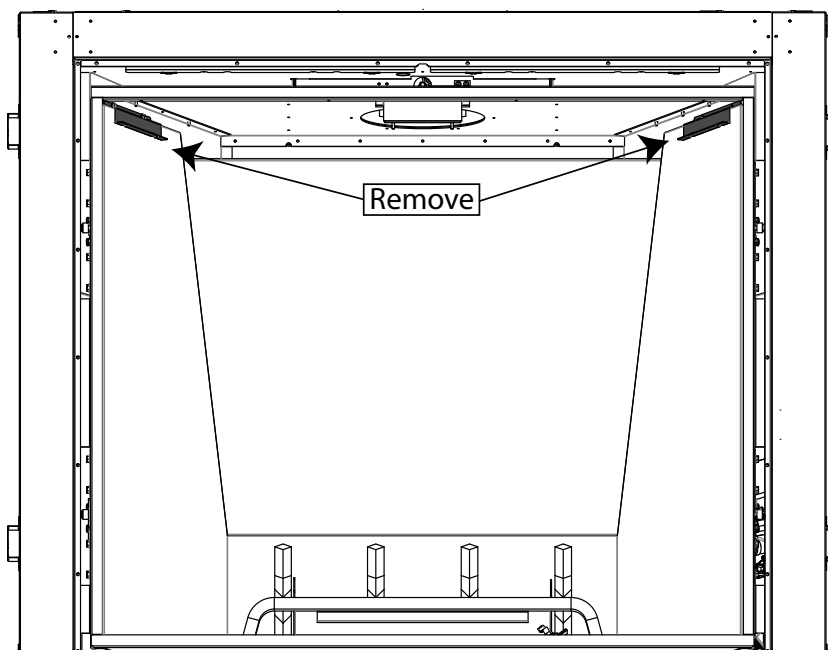

Figure 31: Liner Retainers
Step 1. Remove the side liner retainers one at a time using a 5/16 socket (see Figure 31). The screws only have to be loosened, not completely removed, as the retainers are slotted. ***Note:** The upper rear liner is supported by the side liners. When removing the side liners, be sure to properly support the upper rear liner so that it does not fall.